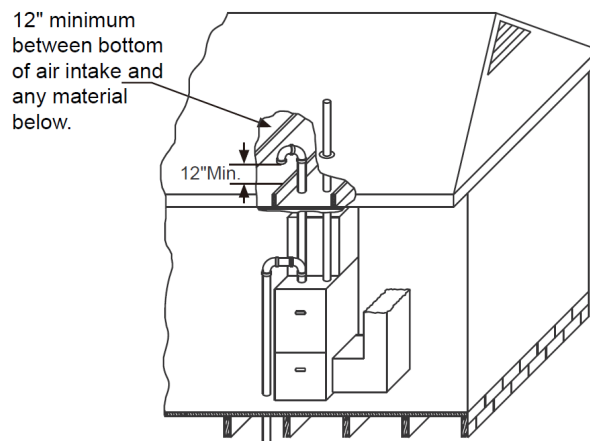

Fig. 4.6d- Attic & Crawl Space Combustion Air Termination
- 3. VENTILATED COMBUSTION AIR:** Combustion air is supplied through a PVC or ABS pipe that is connected to the PVC coupling attached to the burner box and is terminated in a ventilated attic or crawl space. The combustion air and the vent pipes are not terminated in the same atmospheric zone. Refer to Fig. 4.6d for attic and crawl space termination. Only the combustion air intake may terminate in the attic. The vent must terminate outside.